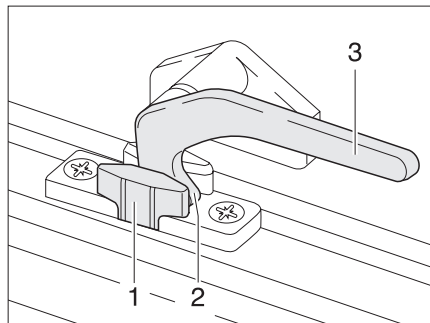
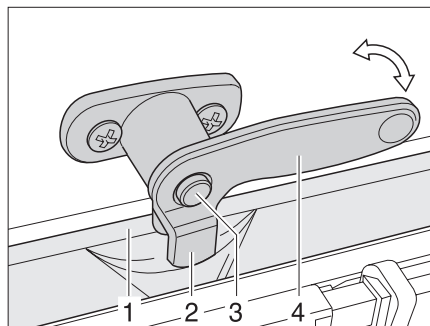

Fig. 42 Catch lever in the "continuous ventilation" position
Fig. 43 Catch lever with safety knob in "Continuous ventilation" position
- "Continuous ventilation" (Fig. 42)
- ▶ If it exists, press the safety knob (Fig. 43,3) down and hold it.
- ▶ Turn the catch lever (Fig. 42,3 or Fig. 43,4) a quarter turn towards the centre of the window.
- ▶ Return the catch lever to its initial position. In the process the locking catch (Fig. 42,2 or Fig. 43,2) is retracted into the recess of the window catch (Fig. 42,1 or Fig. 43,1).